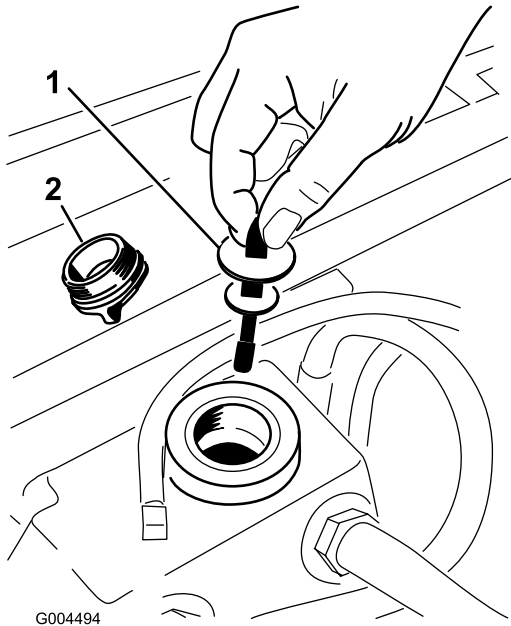

Figure 46
5. Remove the hydraulic fill cap from the filler neck (Figure 46).
6. Remove the dipstick and wipe it with a clean rag (Figure 46).
7. Place the dipstick into the filler neck; then remove it and check the level of fluid (Figure 46).